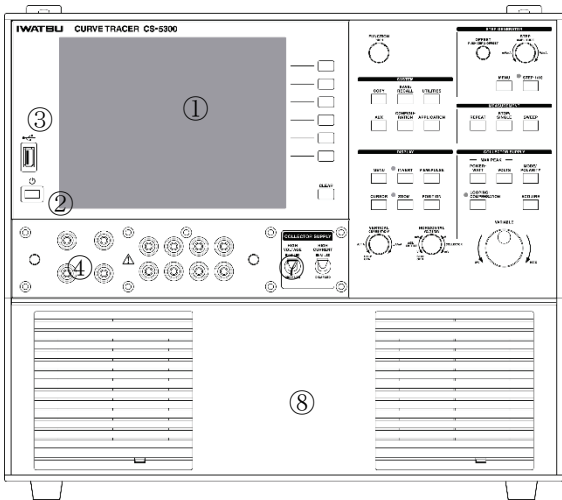

Figure 2.2 Front panel of CS-5200/CS-5300
Figure 2.2 shows the front panel of CS-5200/CS-5300 and Table 2.1 lists name and function of each part. Each part of ① -⑦ is common by four models in each figure. CS-5100 doesn't have part ⑧ HIGH CURRENT compared with CS-5400. CS-5200/CS-5300 have part ⑧ HIGH CURRENT, but don't have ⑨ HIGH CURRENT high current connector.